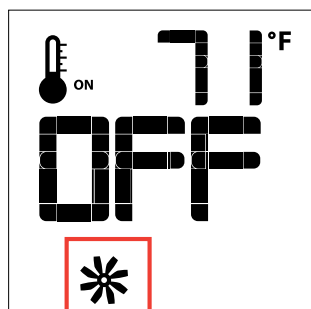
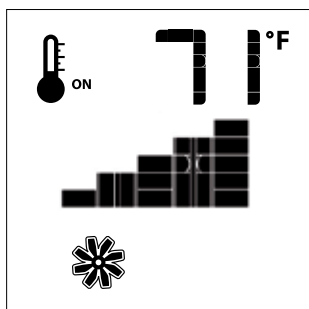

Figure 13
Figure 14
If the appliance is equipped with a hot air circulating fan, the speed of the fan can be controlled by the Proflame system. The fan speed can be adjusted through six (6) speeds. To activate this function use the Mode Key (Fig.1) to index to the fan control icon (fig. 13). Use the Up/Down Arrow Keys (Fig.1) to turn on, off or adjust the fan speed (Fig. 14). A single "beep" will confirm reception of the command.